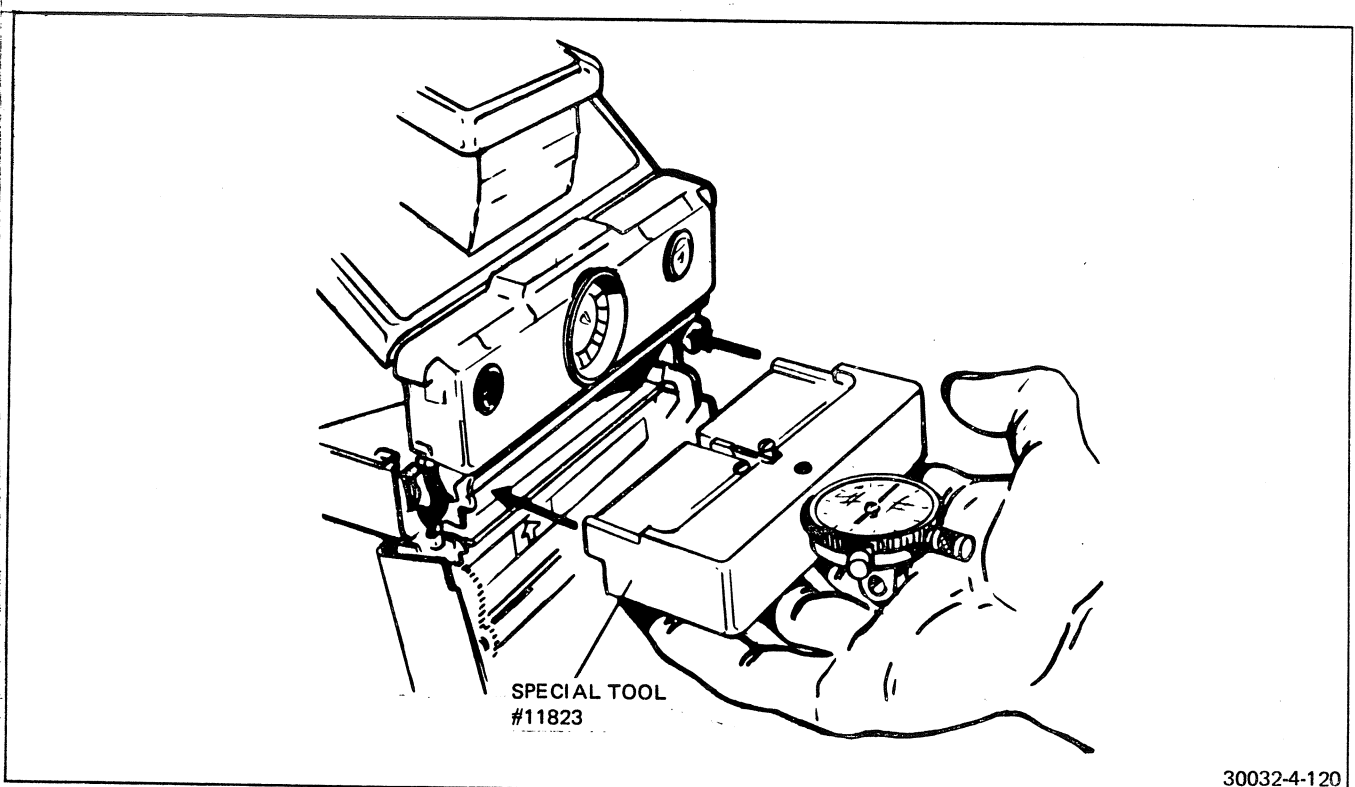

FIGURE 4-120 INNER FRAME BOW GAUGE
1. Remove the front cover and test with the Inner Frame Bow Gauge, Special Tool #11823. Hold the camera with the left hand, insert the gauge and exert pressure on the center of the gauge. The reading will be between $+0.004$ inches and $+0.011$. See Figure 4-120.